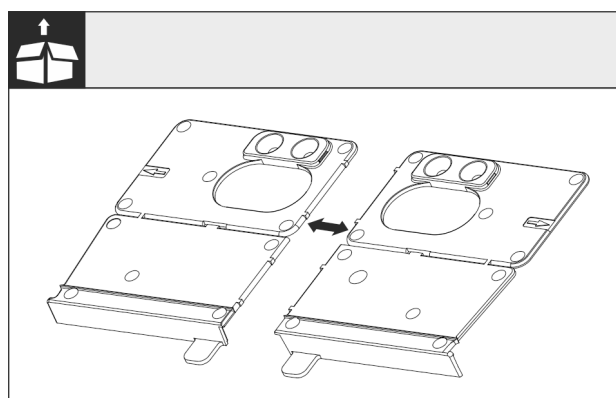

Fig. 27
- Separate the floor mounting bracket Fig. 27 () at the perforation.